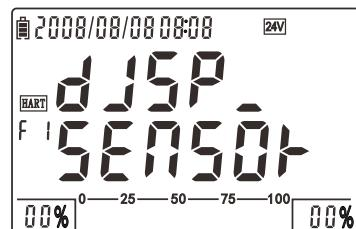

Figure 4-5-1-1: F1 entrance interface
- Switch to HART function 1 by pressing $E_{\text{HART}}^{\text{Fun}}$, as figure 4-5-1-1.
- Display the sensor's range by pressing \leftarrow , as figure 4-5-1-2.
- Press to return to figure 4-5-1-1; switch to function 2 by pressing $E_{\text{HART}}^{\text{Fun}}$.